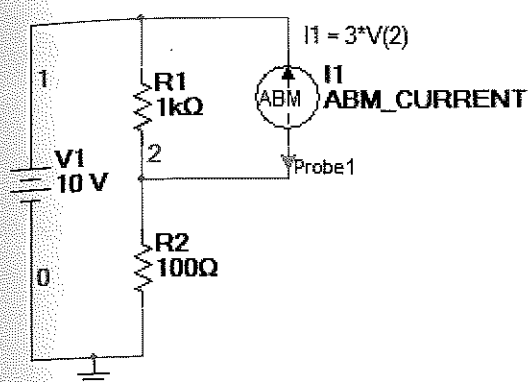

Figure 2-43: Creating a dependent source.
**Step 2:** Using what you learned in Section 2-7.1, draw the circuit shown in Fig. 2-43 (including the probe at node 2).